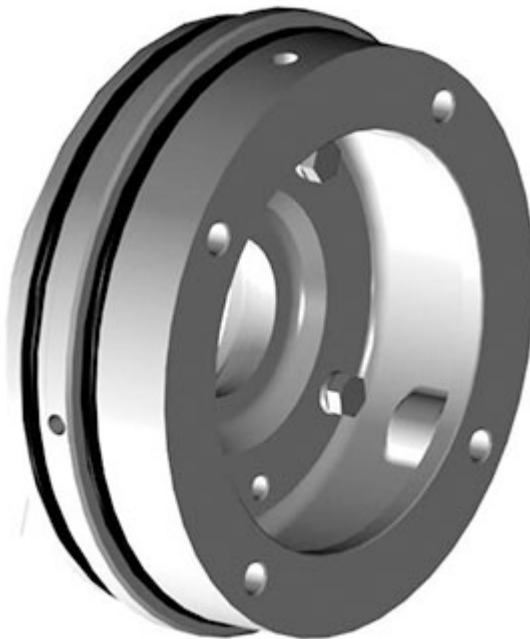

Figure 47: Seal end cover (seal gland) and O-rings installed onto seal body (stuffing box)
12. Press the seal end covers into the seal bodies and secure using the capscrews. (see Figure 47)
13. Lubricate and roll the O-rings into the grooves in each seal body. (see Figure 47)